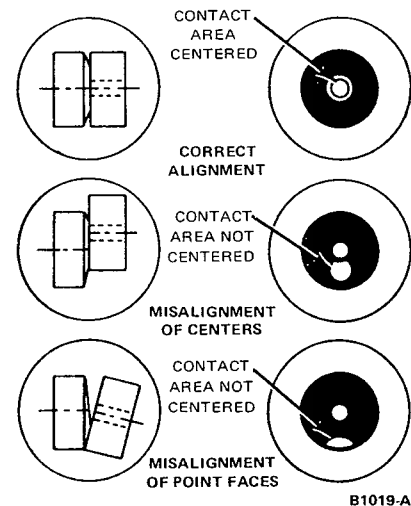

FIG. 6 Checking Breaker Point Alignment
1. Turn the cam so that the breaker points are closed, then check the alignment of the points (Figure 6).